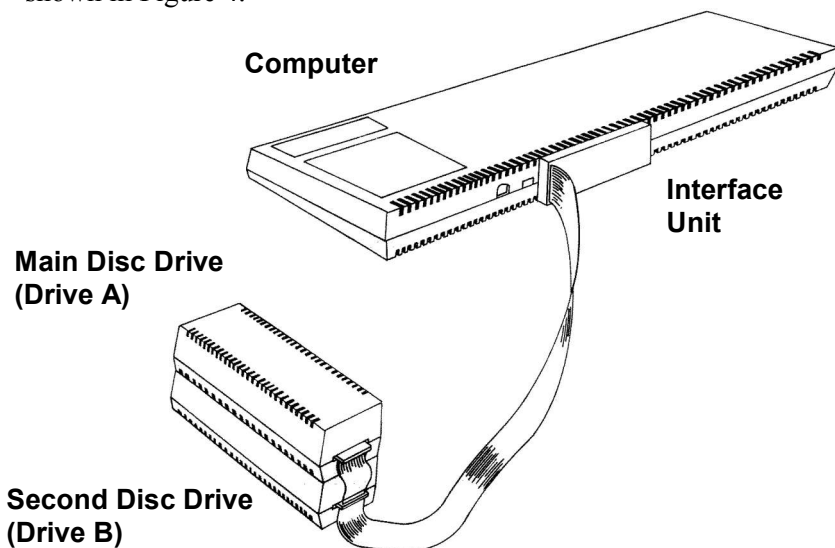

Figure 4
5. If you are operating with 2 disc drives, connect the computer and disc drives as shown in Figure 4.